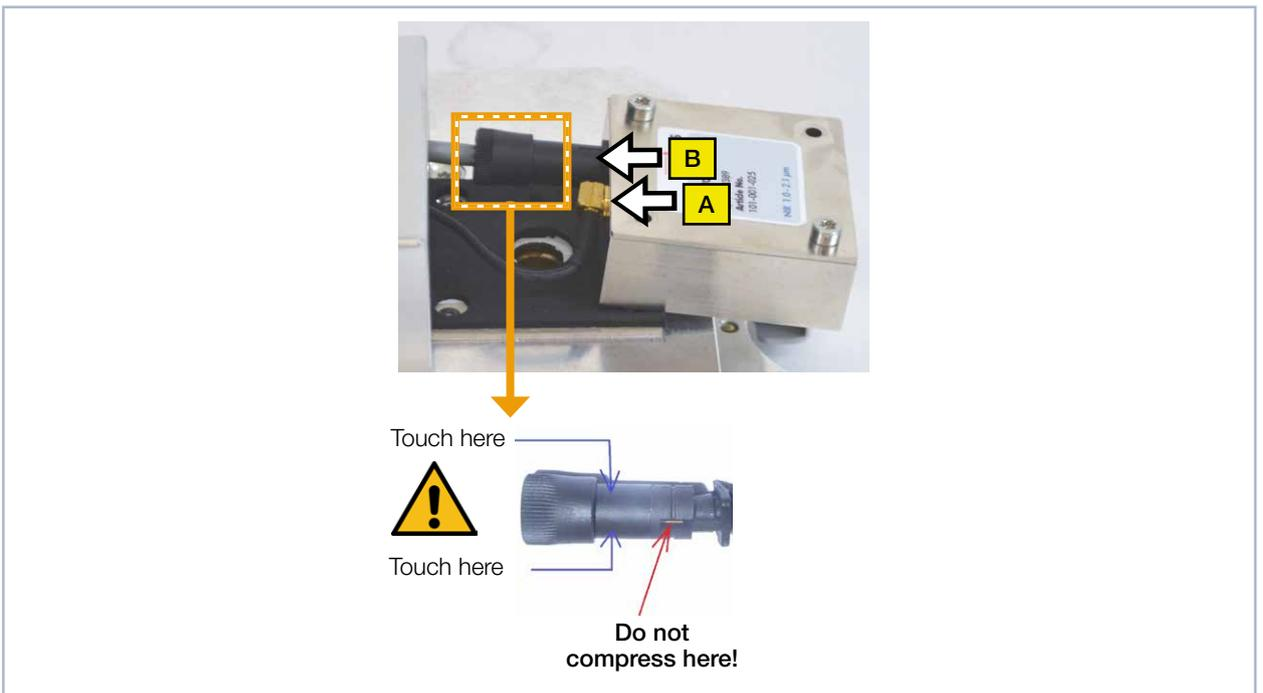

Fig. 18.7: Releasing the plugs from the detector
4. First loosen the golden angle plug (A), then the black plug (B) (see Fig. 18.7 on page 55).